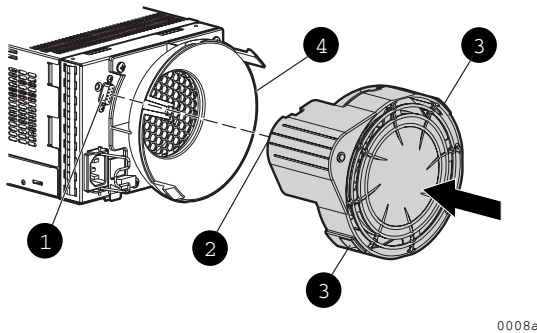

Figure 53 Installing a blower
1. Align the blower guide post (2, Figure 53) with the mounting hole next to the power supply connector (1).
2. Slide the blower onto the power supply (4) until the mounting tabs (3) snap into place.